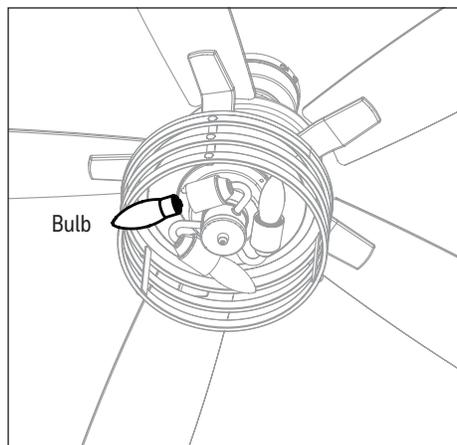

Figure 5.8
- Install the E26-base LED bulbs into the sockets of the light kit. **Important:** Make sure you allow the bulbs and light kit to cool before you replace the bulbs (Figure 5.8).